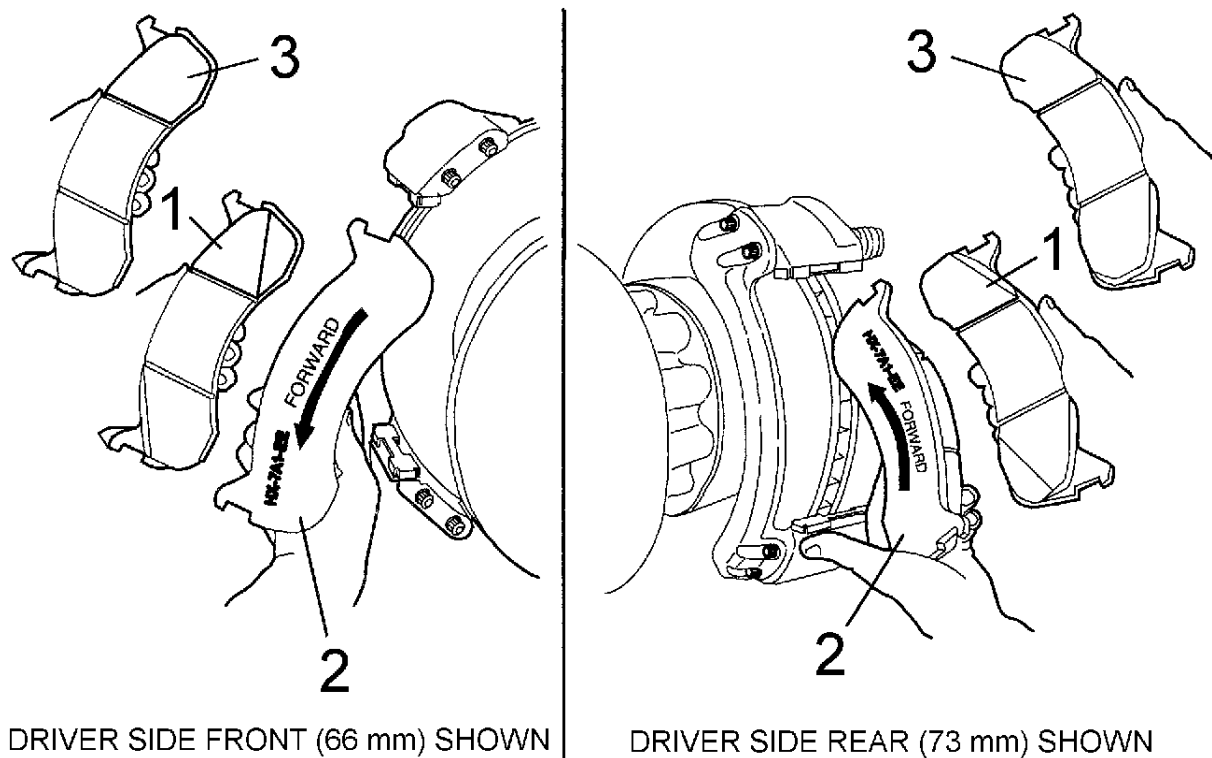

Figure 3 Disc Brake Pads — Inboard and Outboard
- The HX-7A1-EE lining material of inboard disc brake pad (Item 1, Figure 3) (See Figure 3, page 3) and outboard disc brake pad (Item 2, Figure 3) (See Figure 3, page 3) are chamfered and are marked with an “ARROW” and the word “FORWARD” for proper installation. Brake pads are NOT interchangeable from inboard to outboard side on the same wheel.
- The optional HX-402-EE lining material of inboard and outboard disc brake pads (Item 3, Figure 3) (See Figure 3, page 3) are NOT chamfered and ARE interchangeable from inboard to outboard side on the same wheel.
- The optional SOFTER lining brake pad material of inboard and outboard disc brake pads (Item 3, Figure 3) (See Figure 3, page 3), identified by lining code 7610 with smooth backing plates, are NOT chamfered and ARE interchangeable from inboard to outboard side on the same wheel. This brake pad lining is for heavy duty braking applications and is soft to cut down on rotor wear.
The inboard and outboard disc brake pads (Items 13 thru 16) are positioned with both ends mounted on stainless steel slippers (Item 10) covering the anchor plate pad abutments (Item 9). The HX-7A1-EE lining material of inboard disc brake pad (Item 1, Figure 3) (See Figure 3, page 3) and outboard disc brake pad (Item 2, Figure 3) (See Figure 3, page 3) are chamfered and are marked with an "ARROW" and the word "FORWARD" for proper installation. Brake pads are NOT interchangeable from inboard to outboard side on the same wheel. The optional HX-402-EE lining material of inboard and outboard disc brake pads (Item 3, Figure 3) (See Figure 3, page 3) are NOT chamfered and ARE interchangeable from inboard to outboard side on the same wheel. The optional SOFTER lining material of inboard and outboard disc brake pads (Item 3, Figure 3) (See Figure 3, page 3) are NOT chamfered and ARE interchangeable from inboard to outboard side on the same wheel.